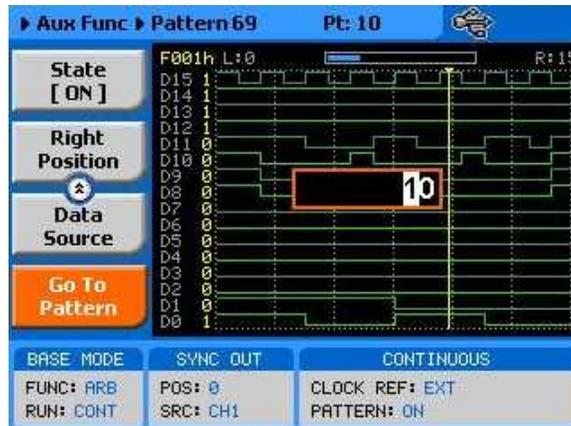

Figure 3-90, Go to Pattern Display
**Go to Pattern** – provides access to a specific line in the pattern sequence. Notice that pattern sequences cannot be added from the front panel because patterns can only be downloaded from a remote controller. Figure 3-90 shows the Go to Pattern display.